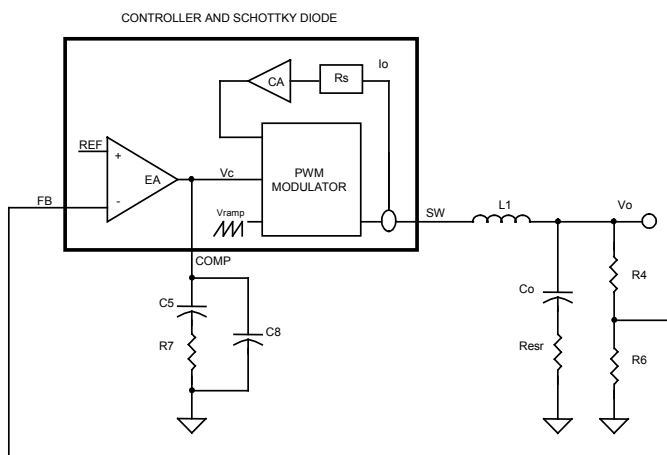

Figure 7. Block diagram of control loops
The block diagram in Figure 7 shows the control loops of a buck converter with the SC4525C. The inner loop (current loop) consists of a current sensing resistor ($R_s=3.53\text{m}\Omega$) and a current amplifier (CA) with gain ($G_{CA}=18.5$). The outer loop (voltage loop) consists of an error amplifier (EA), a PWM modulator, and a LC filter.
For a converter with switching frequency F_{SW} , output inductance L_1 , output capacitance C_o and loading R , the control (V_c) to output (V_o) transfer function in Figure 7 is given by: